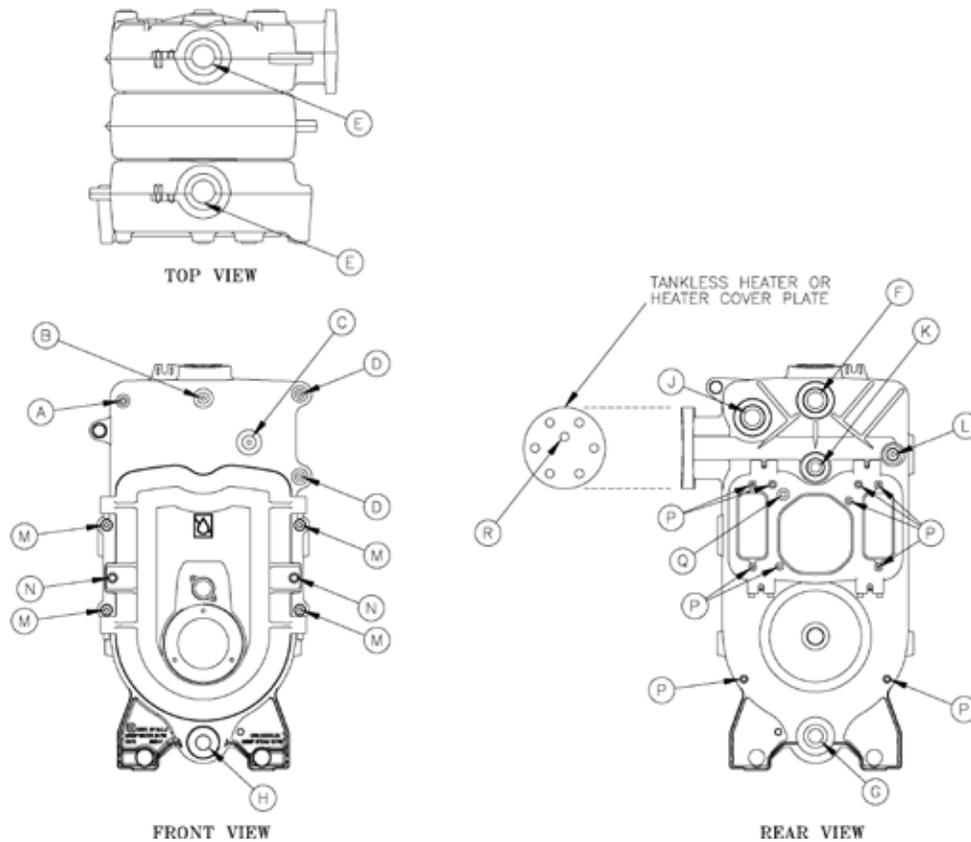

Figure 7: Purpose of Tappings and Bosses
- See also Figure 7 "Purpose of Tappings & Bosses".
3. Locate rear panel two lower attachment bosses on rear section. See Figure 7 "Purpose of Tappings & Bosses".
3. Review and locate pressure limit tapping on front section. See Table 3 "Purpose of Tappings & Bosses" and Figure 7.
2. Install the probe into the appropriate front section tapping. See Figure 7 "Purpose of Tappings & Bosses".
2. Install the gauge glass using the two 1/2" NPT tappings to the right of the probe LWCO. See Figure 7 "Purpose of Tappings & Bosses".
3. Thread the pressure gauge into 1/4" NPT tapping of the front section. See Figure 7 "Purpose of Tappings & Bosses". Tighten with wrench applied to the square shank of the gauge.
2. Install two 1/2" NPT x 2 1/2" long Sch 40 brass nipples, supplied loose inside Control Carton (disregard two 1/2" NPT x 1 1/2" long brass nipples provided with #67 LWCO package) and 1/2" NPT brass unions into upper and lower front section tappings. See Table 3 "Purpose of Tappings & Bosses" and Figure 7.